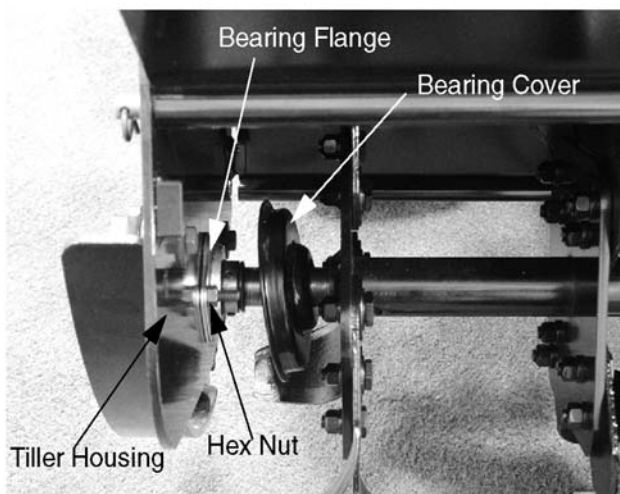

Figure 8-112.
6. Slide the inner bearing cover to the right to access the two hex nuts securing the bearing flange to the tiller housing. See Figure 8-112.